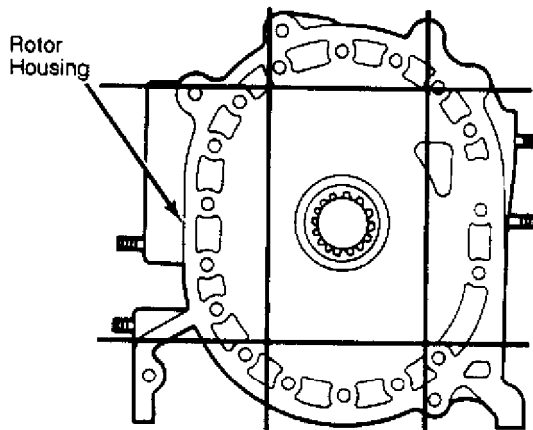

Fig. 5: Straightedge Positions for Checking Housing Distortions Replace if warpage exceeds limit.
2) Place a straightedge across housing surface in positions shown in Fig. 5. Using a feeler gauge, measure distortion of front housing. Replace housing if distortion limit of .0016" (.04 mm) is exceeded.